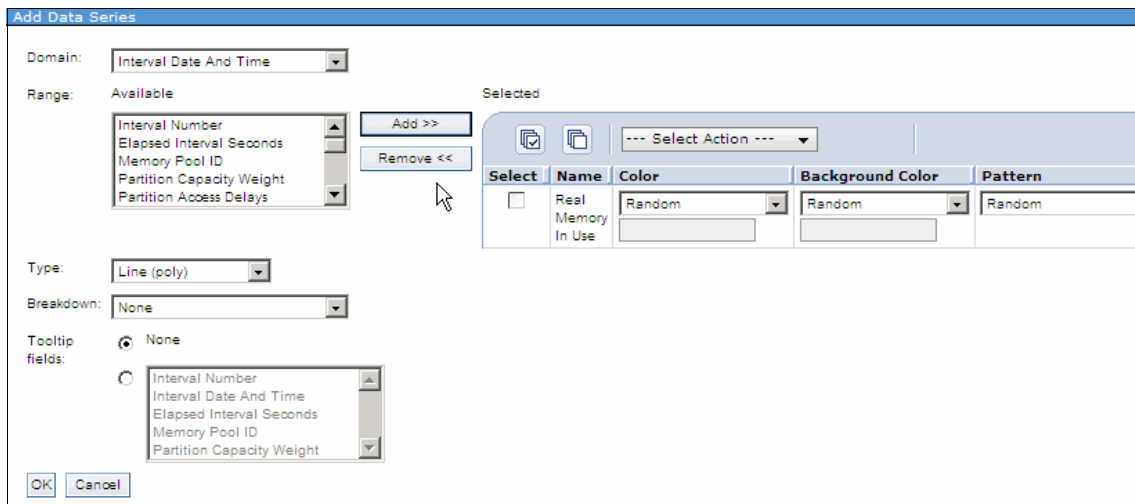

Figure 5-13 Selecting the category
- As shown on Figure 5-13, you can specify the category that you want to present on the graph. Select **Real Memory in Use** to display memory usage, then click **Add** and **OK**.